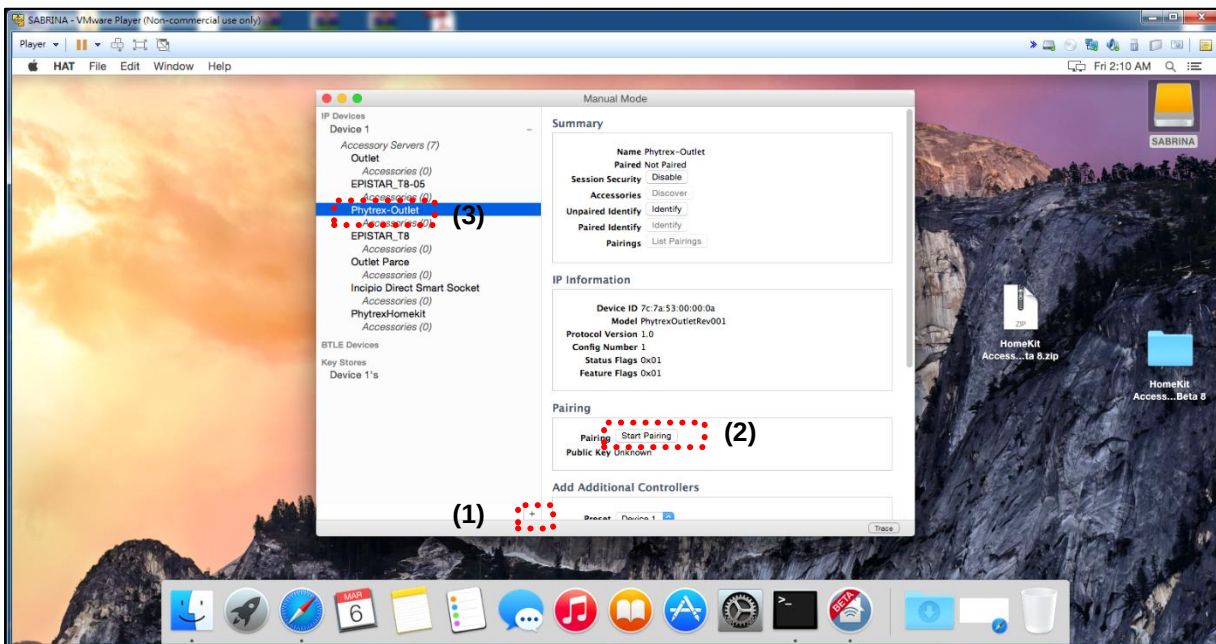

Figure 23 :Add IP Device and Press the "Start Pairing" button
- Step 4 Click "+" at bottom line to add "Create IP Device", then select the device you want to control and press the "start pairing" (Figure 23)